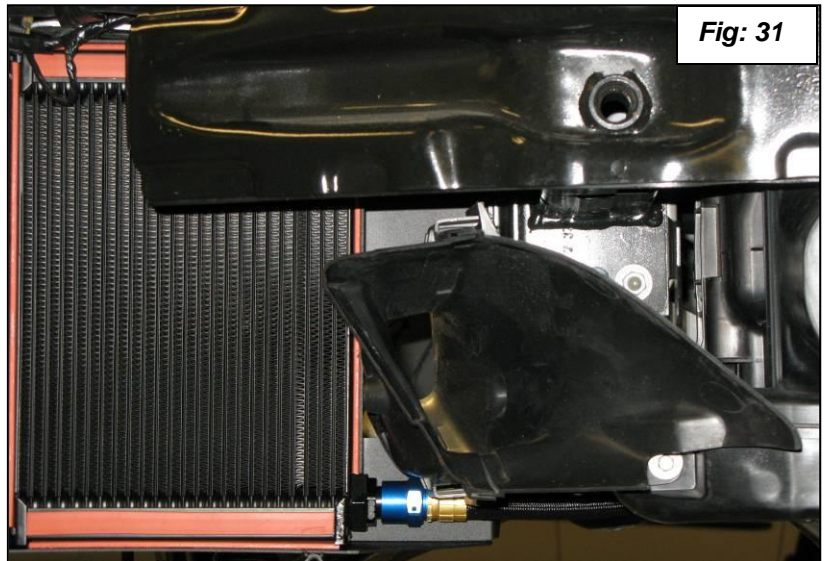

Fig: 31
33. When you get it into position with the guide pins in their holes fasten with the stock screw as shown in figure 31.